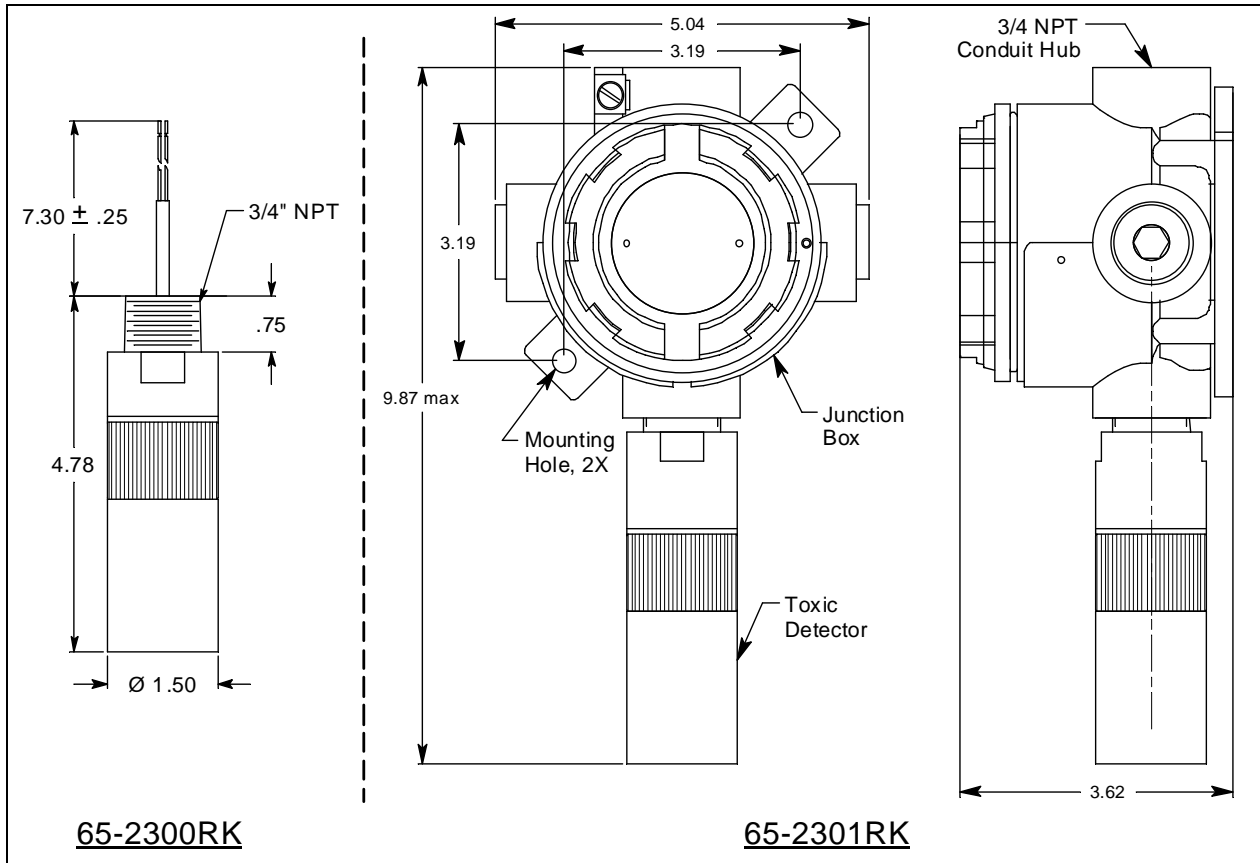

Figure 3: Outline & Mounting Dimensions, 65-2300RK & 65-2301RK
NOTE: If you are installing a 65-2300RK, it does not include a junction box and is usually factory installed in one of a controller's conduit hubs or may be field installed using the 3/4 NPT threads on the end with the wires. The 65-2301RK includes a junction box as shown in Figure 3 below.
2. At the mounting site you select, use two screws to mount the junction box using the mounting holes. Be sure the detector is facing down (see Figure 3).
CAUTION: Mount the toxic detector with the detector facing down (see Figure 3.)